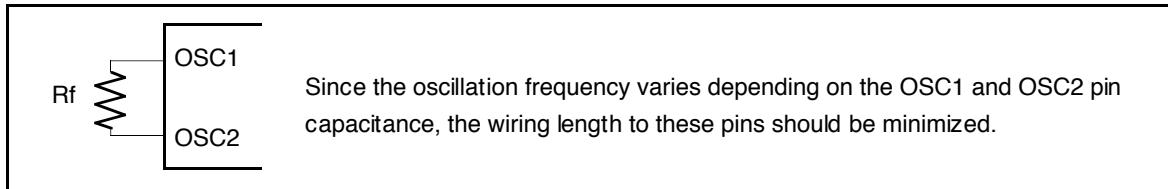

Figure 59 Internal Oscillation
10. Applies to the internal oscillator operations using external oscillation resistor Rf (figure 59 and table 28).